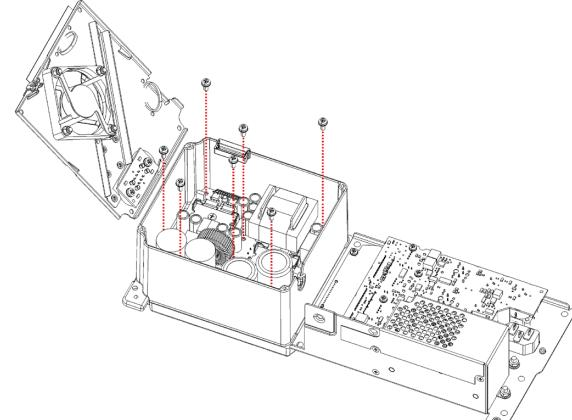

Figure 6.2.6 - Metal cover rotated up for AMP/PSU access
7. Lift up and rotate the metal cover assembly (which includes the fan and output connector PCB) to provide access to the AMP/PSU board. See Figure 6.2.6 for a visual aide.
10. Remove the 7 short machine screws that secure the PCB to the heatsink chassis. See Figure 6.2.6.